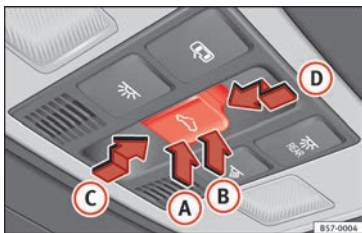

Fig. 134 On the interior roof lining: sunroof button.
The button  **Fig. 134** has two levels. The first level switches the sunroof to the tilted position, opening or closing it fully or partially.
- *Sunroof*: within approx. 5 seconds of having activated the anti-trap function, press the button **☰»» Fig. 134** to the second level in the direction of arrow **»» Fig. 134 ①** until the sunroof closes completely.